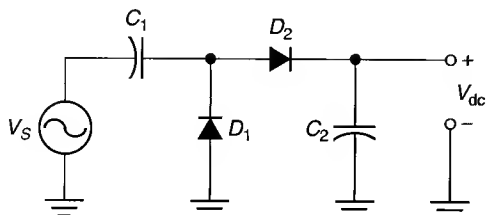

FIGURE 4.38
22. The circuit shown in Figure 4.38 has a 15 V_{pk} input signal. Determine the values of V_{C1} and V_{C2} for the circuit. Assume that the diodes are ideal components.
- 23.** The circuit shown in Figure 4.38 has a 48 V_{pk} input signal. Determine the values of V_{C1} and V_{C2} for the circuit. Assume that the diodes are ideal components.